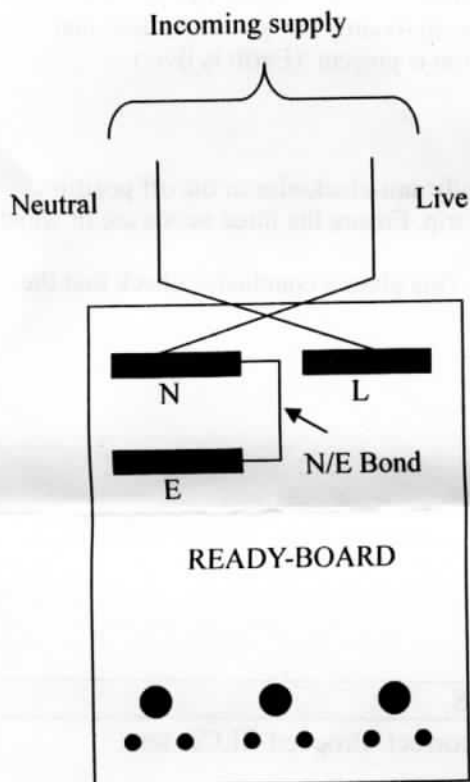

Figure 2
This gives rise to the very unsatisfactory situation that if the incoming line and neutral feeding the ready-board are mistakenly reversed the old TEL1, as is the case with other similar devices on the market, incorrectly shows the wiring integrity as being OK, when in fact the very serious situation exists with the incoming line being connected to neutral AND EARTH. See figure2.
3. Condition as per figure 2.